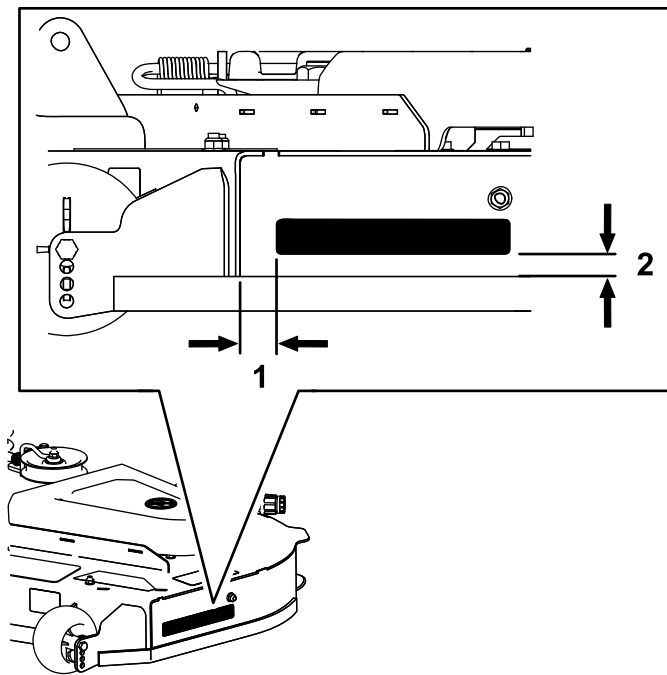

Figure 9
1. Install the decal to the mower deck in the location shown in Figure 9.